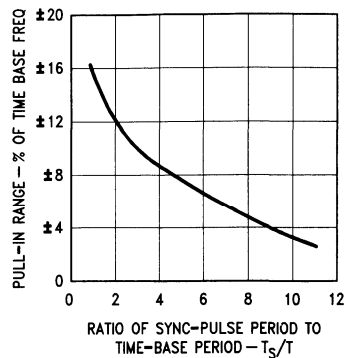

FIGURE 5. Typical Pull-in Range for Harmonic Synchronization
*Figure 5* gives the typical pull-in range for harmonic synchronization for various harmonic modulus, m. For  $m < 10$ , typical pull-in range is greater than  $\pm 4\%$  of the time-base frequency.